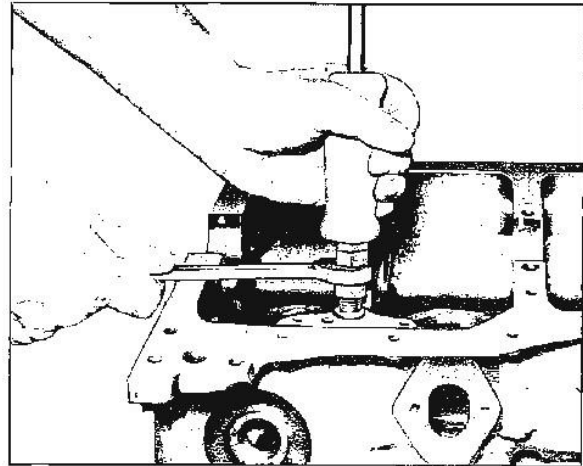

Fig. 6-72 Removing Distributor Lower Bushing
1. Install tool J-9534 into bushing and using a slide hammer, remove the bushing (Fig. 6-72). ...